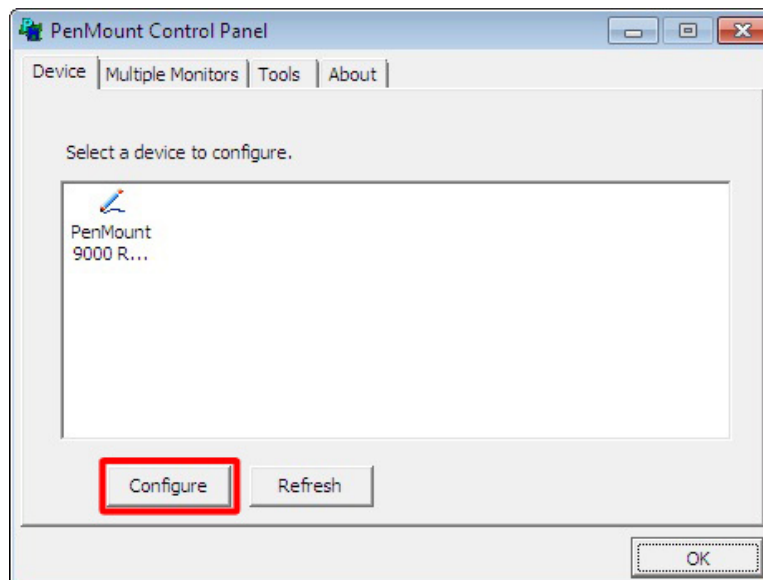

Figure 6-34: Touchscreen Control Panel
Step 3: The touchscreen control panel appears (Figure 6-34). Click **Configure**.